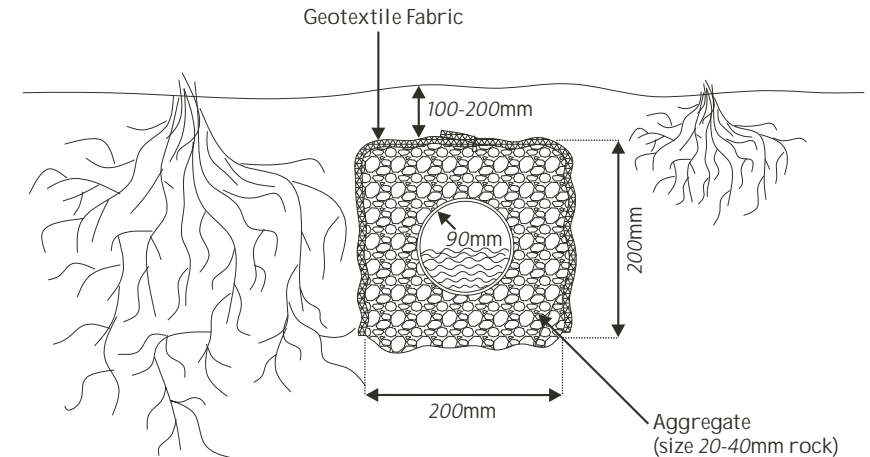

Figure 7
10. Back fill the trench with 20-40mm aggregate to 200mm overall depth. Fold the geotextile material top edges over the aggregate surface and backfill the remainder of the irrigation trench with soil (see Figure 7).
- Back fill the trench with 20-40mm aggregate to 200mm overall depth. Fold the geotextile material top edges over the aggregate surface and backfill the remainder of the irrigation trench with soil (see Figure 7).